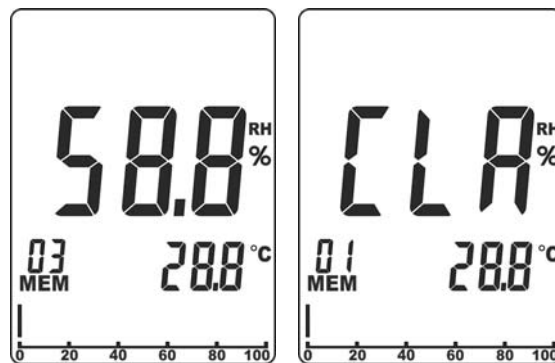

Fig. 4: Deleting the internal memory
1. Press keys ◀ and ▶ at the same time. The indication of the current memory location (see Fig. 4 – left side) flashes on the display.
2. Press and hold keys ◀ and **MEM/ALM** at the same time for at least 3s. The message “CLR” appears on the display and the memory location is automatically brought back to “01” (see Fig. 4 – right side).